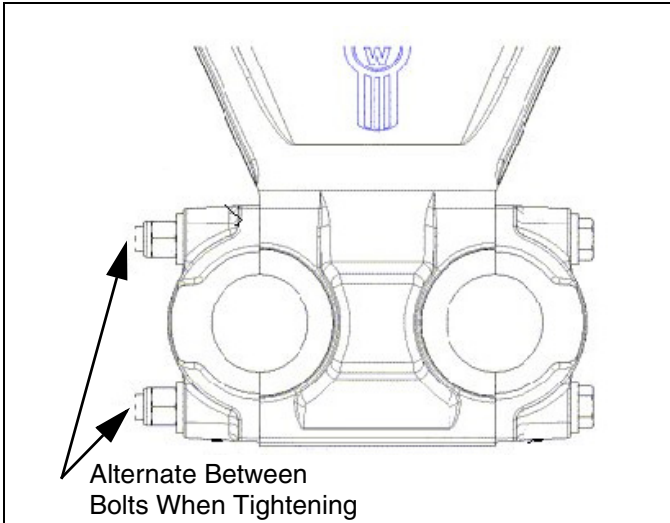

Figure 15-22
- Tighten each joint evenly by alternating back and forth between the top and bottom cap bolts a minimum of 5 times (ensuring the joint is evenly clamped and the bushing is properly compressed). See Figure 15-22.